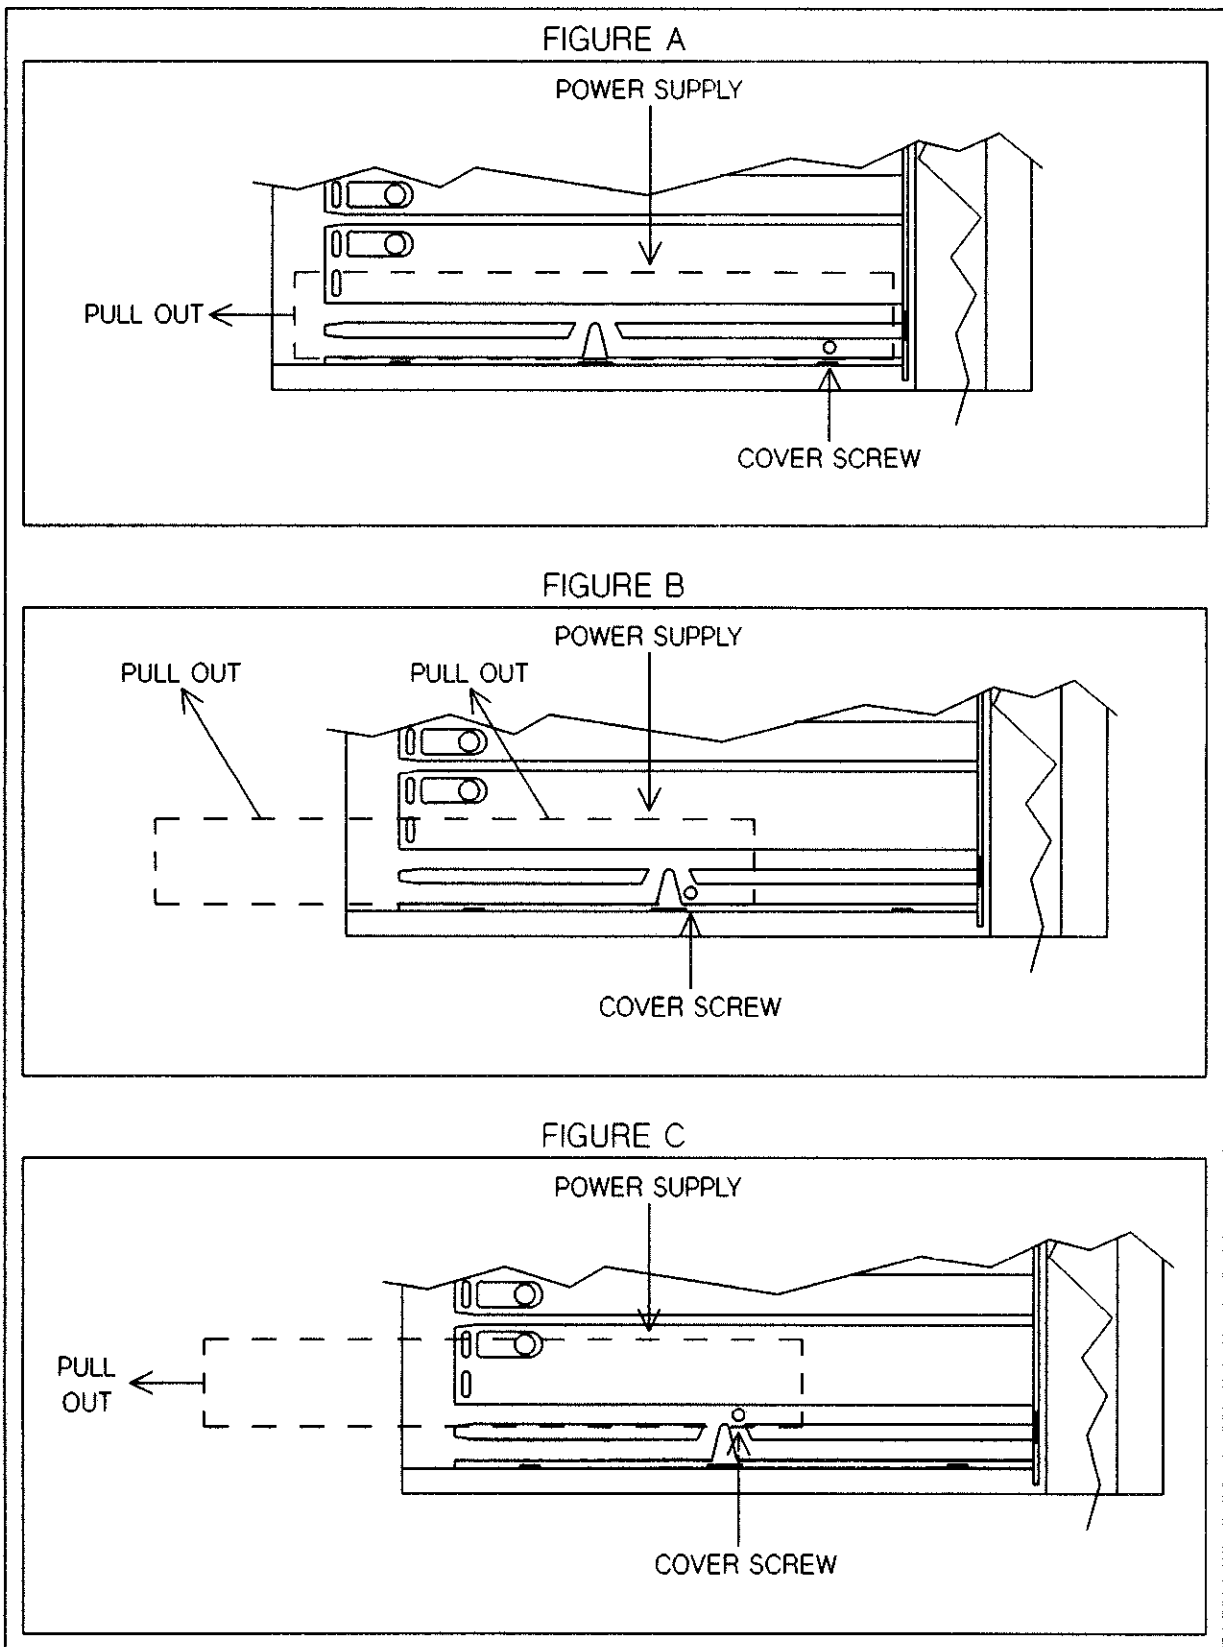

Figure 4-3 Power Supply Removal
9. Refer to Figure 4-3-A (Figure A in Figure 4-3). Note that the figure shows the present location of the power supply module. The dashed lines in the figure represents the module.
All figures in Figure 4-3 show a partial inside right view (with rear of instrument facing forward) of the chassis, as viewed from the top. The dashed lines in all figures represents the power supply module.
10. Figure 4-3-A shows the direction at which the power supply module is to be pulled out first. Hold the power supply module by the rear panel. Carefully pull it straight out toward the rear of the instrument until it stops. The module should now be partially pulled out of the chassis as shown in Figure 4-3-B.
11. Figure 4-3-B shows the direction at which the module is to be pulled out next. However, before pulling on the module, locate the slot 7 grounding spring under the top part of the chassis. Depress the spring and then pull the power supply module to the left until it stops. Make sure the spring is depressed before moving the power supply module or damage to the spring can result. The module should now be in the position shown in Figure 4-3-C.
12. Figure 4-3-C shows the direction at which the module is to be pulled out last. Pull the power supply module completely out of the chassis until the power switch push-rod clears the chassis. Make sure that the module is pulled straight out and completely out to prevent the power switch push-rod from breaking. Place the module gently on a flat surface.